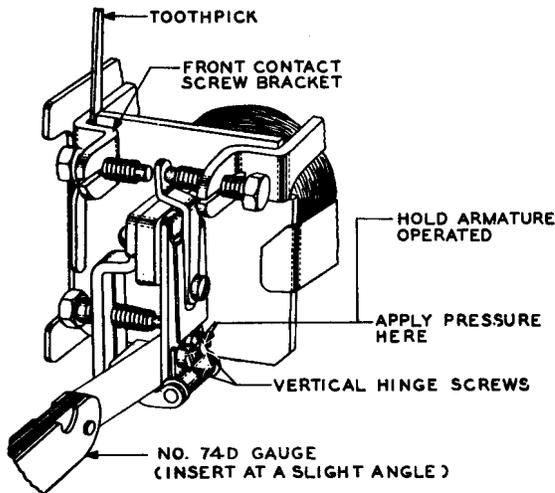

Fig. 12 - Method of Adjusting for Base Gap
(1) Relays With Solid Contact Springs: In the case of relays not having a contact spring support, insert a toothpick between the front contact screw bracket and the front spoolhead as shown in Fig. 12 when adjusting the relay.
(2) Hinge-type Relays: Check that the vertical hinge screws do not project through the armature. If they do, replace them. If the vertical hinge screws are satisfactory, proceed as covered in (4).
(3) Reed-type Relays: In the case of reed-type relays, turn the retractile spring screw in a counterclockwise direction with the No. 43 wrench in order to insert the No. 74D gauge between the armature and return pole piece. Then proceed as outlined in (4).